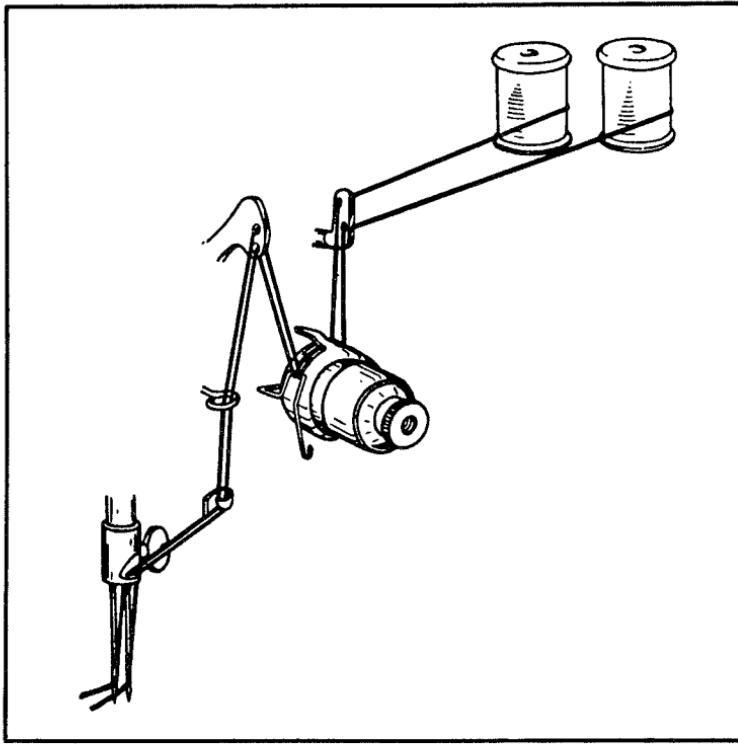

Fig. 2-8. Threading the top tension regulator on the Pfaff 230/332 Automatic.
- Loop the thread around and between the tension discs (Fig. 2-8), noting that in the case of a double-needle machine there will be two sets of discs (three discs in all, and it makes no difference which set you use.)